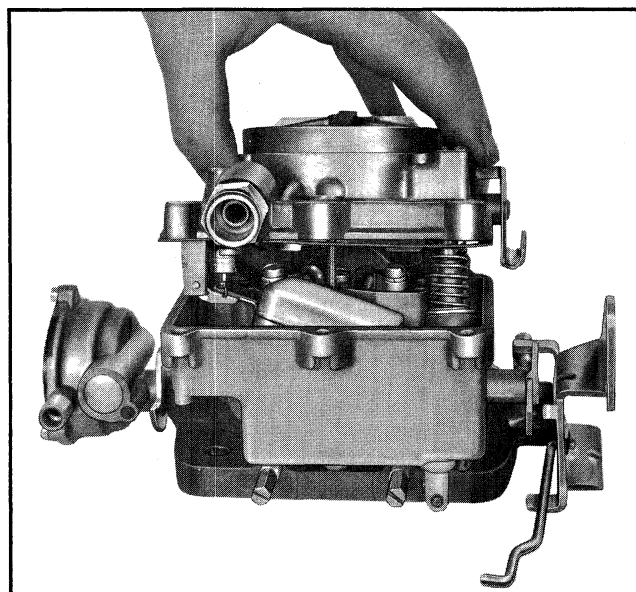

Fig. 6B-46 Removing Bowl Cover Assembly
7. Remove float needle seat, screen (Fig. 6B-47) and gasket with wide blade screwdriver.